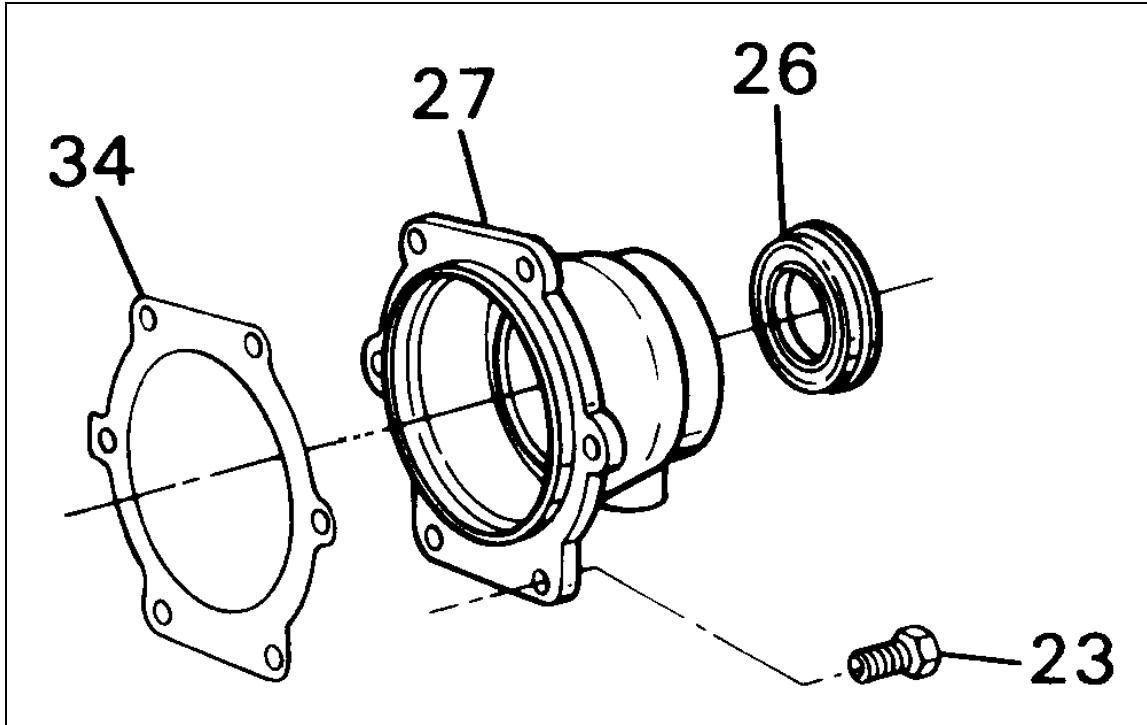

**FIGURE 2-4**
Remove the rear seal (26) from the extension housing (27). See Figure 2-4. Avoid damaging or gouging the seal bore in the housing. Seal removal is easier while the extension housing is still bolted to the transmission case. If the transmission mount is still attached to the extension housing, remove it at this time. Remove the six extension housing to case bolts (23). See Figure 2-5.